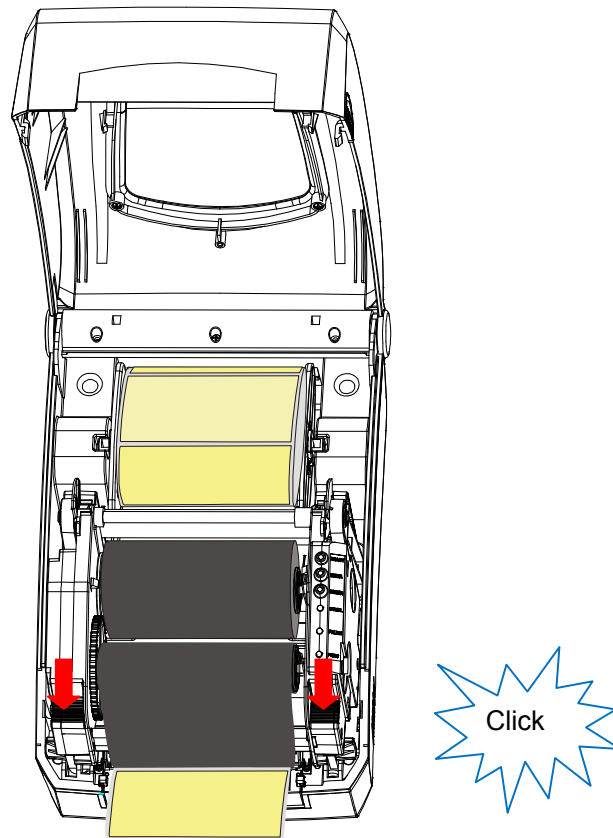

Figure 6-4
8. Close the Printhead Module and press down until it locks into place (see Figure 6-4).